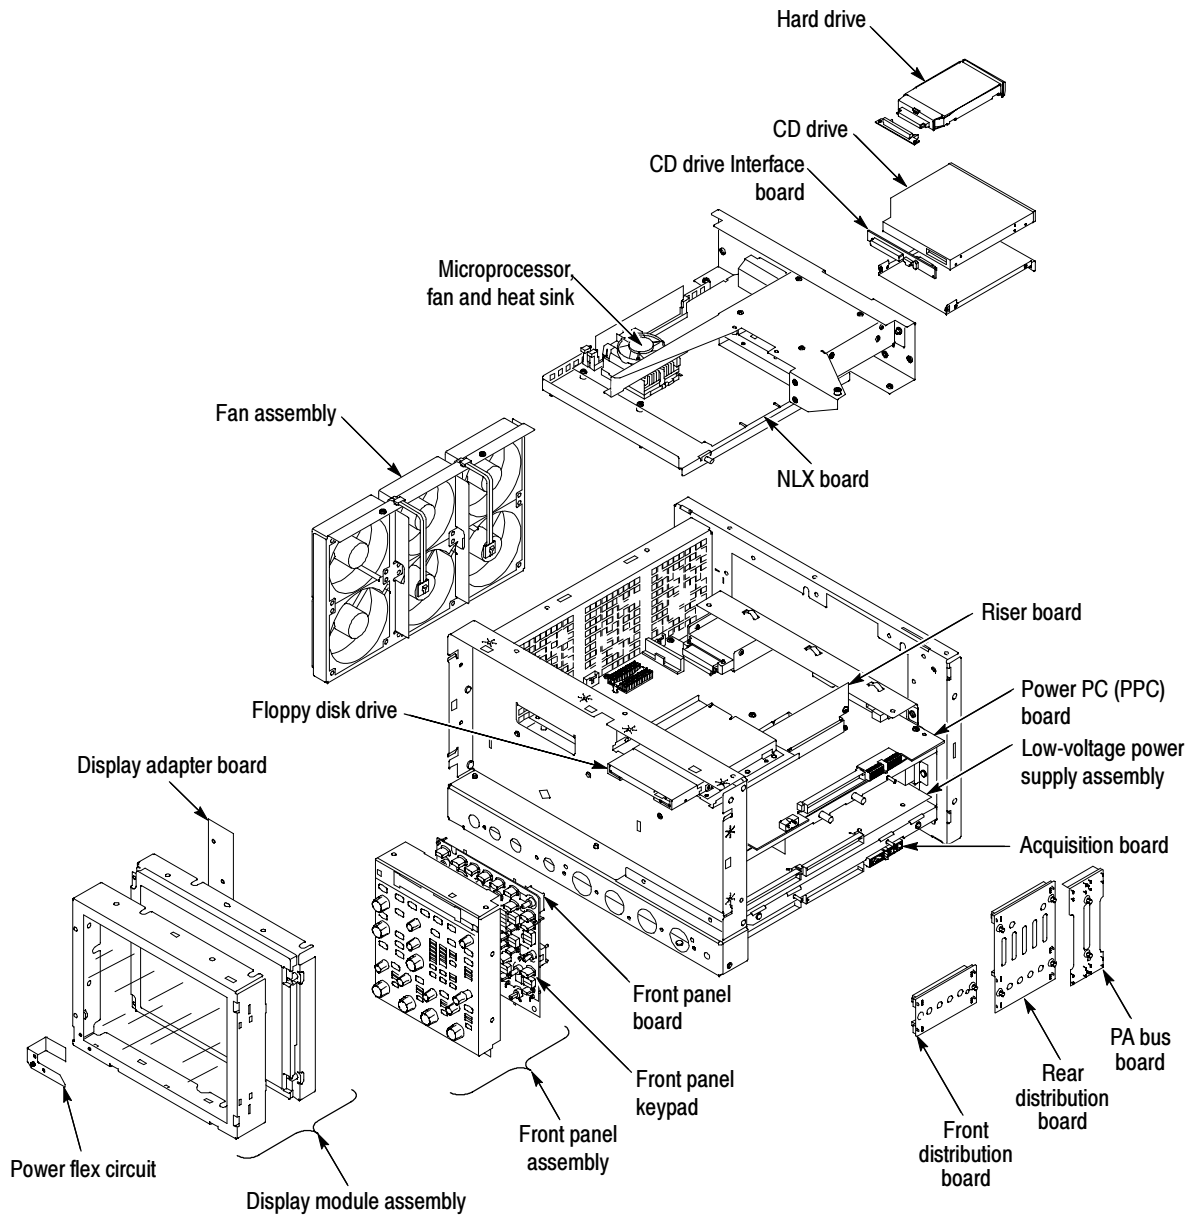

Figure 7: Internal modules
1. *Locate module to be removed:* Locate the NLX Board in the locator diagram *Internal Modules*, Figure 7, on page 15. Additional modules to be removed: